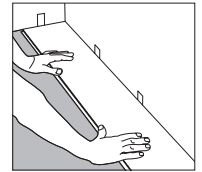

Figure 1
1. Starting from the left with the tongue facing the wall, carefully place the first plank in place using spacers to leave 1/4" gap between wall and edges of the plank. (Figure 1)